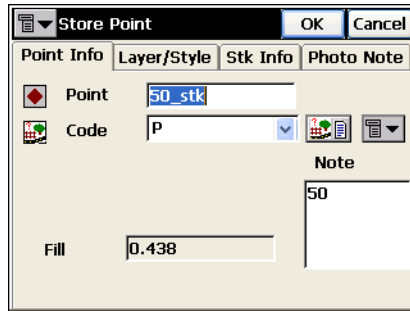

Figure 7-9. Store Point
The *Display Store Pt Info* box is selected by default to display information on the staked point before storing it. The *Store Point* screen displays the point name, code and cut/fill values; photo note; the layer name, plotting parameters; and stakeout information (Figure 7-9 on page 7-6).
- To store the staked point on a layer, select the *Design Pt/Layer* option from the menu popped up after tapping the bitmap in the upper left corner of the *Stakeout* screen (see Figure 7-8 on page 7-5 and Figure 7-9 on page 7-6).
- To store the staked point on a layer, select the *Design Pt/Layer* option from the menu popped up after tapping the bitmap in the upper left corner of the *Stakeout* screen (see Figure 7-8 on page 7-5 and Figure 7-9 on page 7-6)
10. To store the staked point on a layer, select the *Design Pt/Layer* option from the drop-down menu in the upper left corner of the **Stakeout** screen (see Figure 7-8 on page 7-5 and Figure 7-9 on page 7-6)